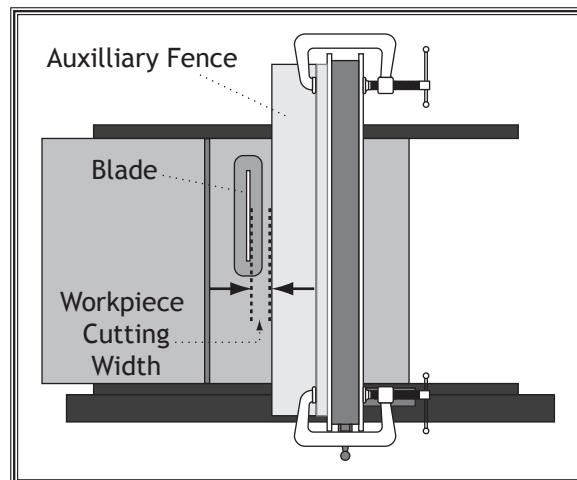

Figure 78. Adjusted distance between the blade and auxiliary fence.
1. Place the auxiliary fence on the table and clamp it to the fence at both ends, then adjust the distance between the auxiliary fence and the blade—this determines how wide the workpiece will be ripped (see Figure 78).